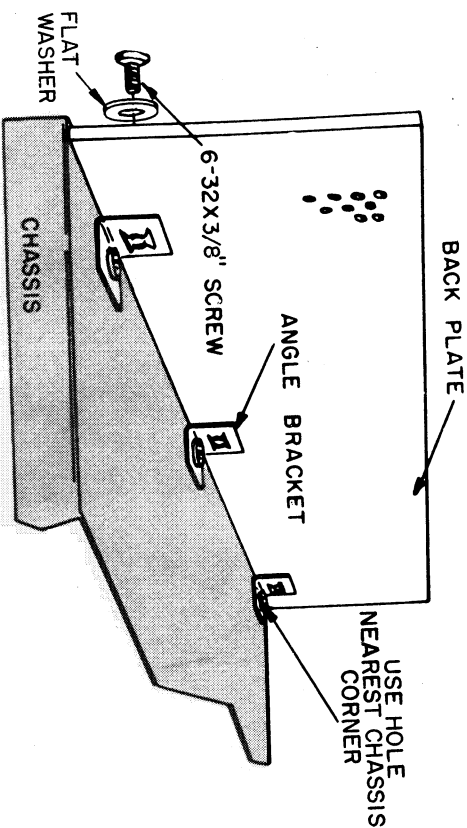

FIGURE 2.
- ☑ 3 angle brackets. Mount on top of the chassis, the upright portion parallel to the rear edge of chassis, with three 6-32 x 1/4" screws, lockwashers and nuts, as shown in Figure 2. Use the plain, unthreaded bracket holes for this step.